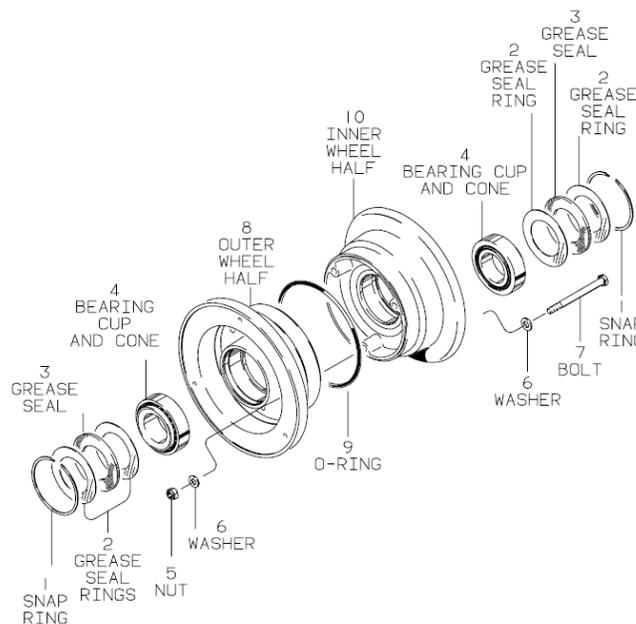

Figure 32-16 Wheel Assembly
Wheels are made from aluminum castings, magnesium castings, or aluminum forgings. The wheel as shown in Figure 32-16 is of the divided type, incorporating inner wheel half (10) and outer wheel half (8), Ref. Figure 3, which are fastened together with tie bolts (7), washers (6), and nuts (5). An o-ring (9) fitted between the two wheel halves provides the air seal for wheels designed to operate with tubeless tires. The wheel rotates on two tapered roller bearings (4) which seat in bearing cups, shrink fitted into the hubs. Grease seals (3) provide protection and lubricant retention for the bearings. Hubcaps, when used on the main wheels, are secured to the outboard wheel half by a snap ring (1) or three attachment screws. Full wheel covers are fastened by three attachment screws. Main wheels differ from the nose wheel in that they are fitted with brake disk assemblies on one wheel half.